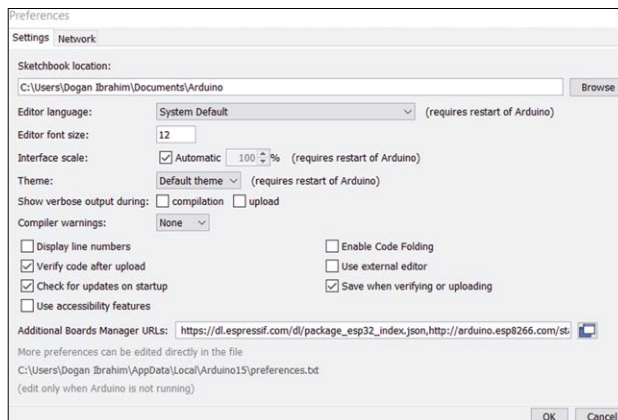

Figure 18.11 Installing the ESP8266 on Arduino IDE
- Click **File -> Preferences** and enter the following at the bottom of the screen as shown in Figure 18.11. If you already have another URL there, separate them with a comma, and click **OK**